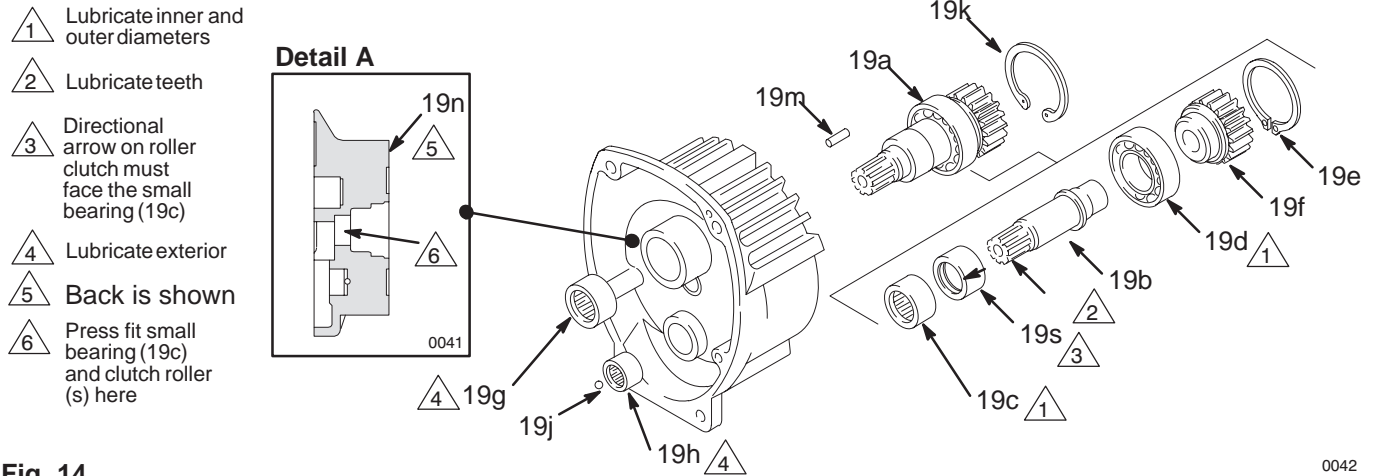

Fig. 14
**NOTE:** Refer to Fig. 14 except where noted.
5. Apply lubricant to the parts as shown in Fig. 14.
- Small bearing (19c) and then the roller clutch (19s), with the directional arrow facing the small bearing, into the rear of the housing (19n). See Detail A in Fig. 14.